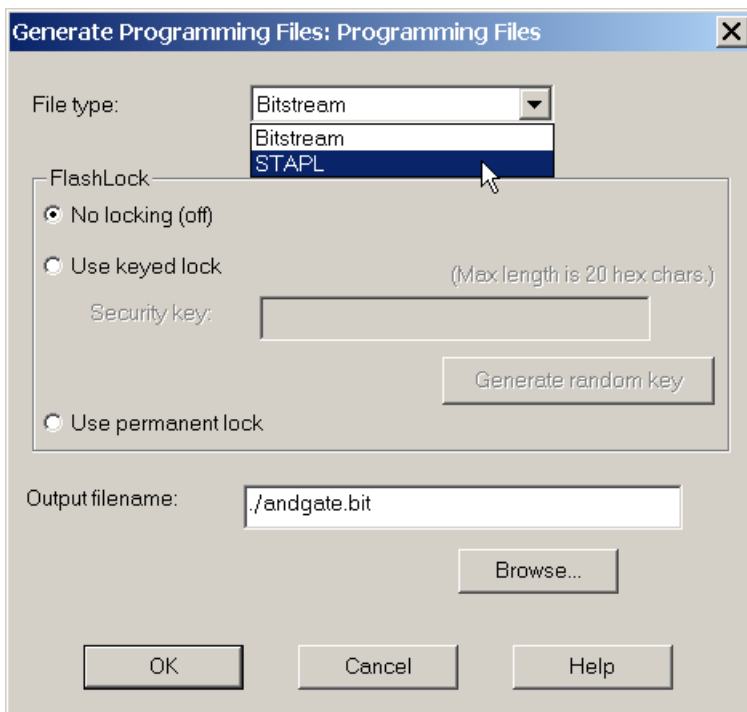

Figure 5-24. Bitstream File Dialog Box
2. **Double-click the Bitstream icon in Designer, or select *Export -> Bitstream Files* from the File menu.** This opens the Generate Programming Files: Bitstream Files dialog box, as shown in Figure 5-24.